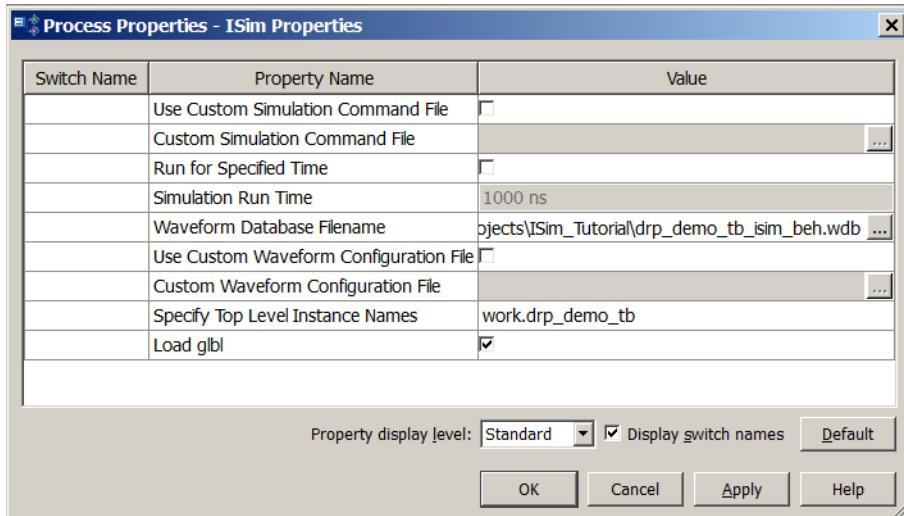

Figure 2-8: Process Properties: ISim Properties Dialog Box
4. In the Processes pane, expand the **ISim Simulator** tree and right-click **Simulate Behavioral Model** under the ISim Simulator process and select **Process Properties**. The ISim Properties dialog box opens (see Figure 2-8).